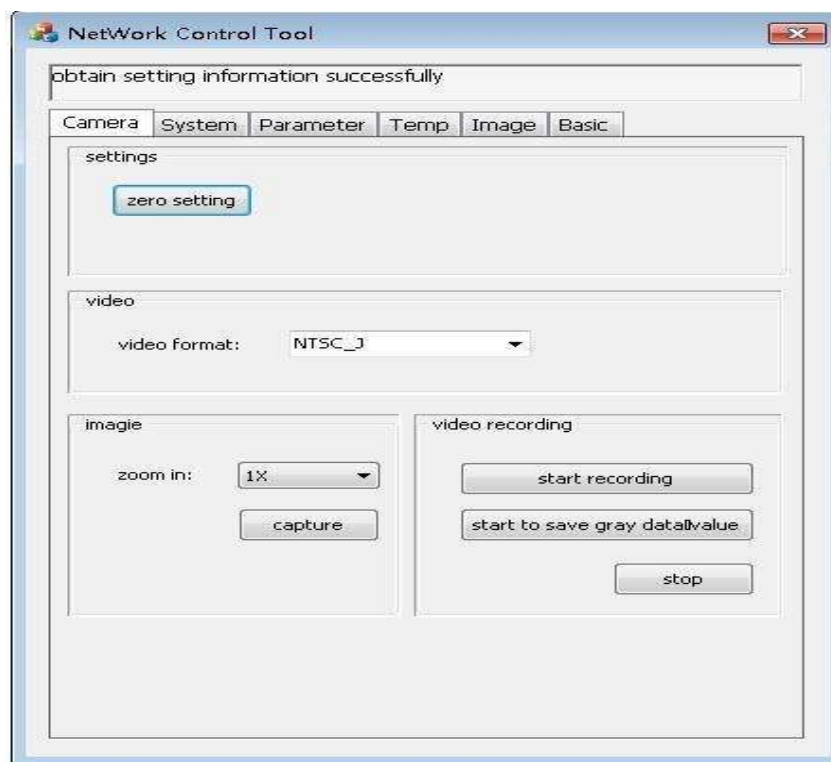

Figure 5-4
**Remote setup:** Adjust the options in Camera, System, Parameter, Temp and Image, as well as look up the basic information of device. As shown in the figure 5-4.